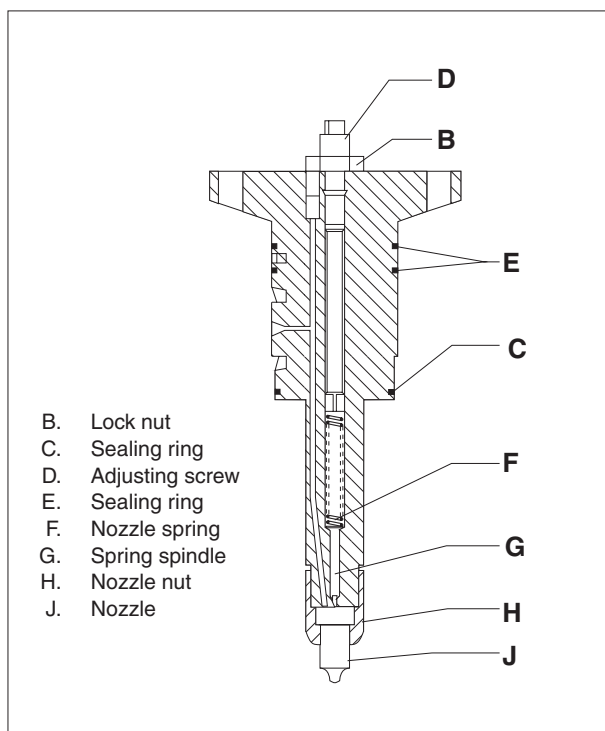

Fig 2 Fuel injection valve.
2. Mount the fuel injection valve into the clamping bracket VTO-W022 (see plate 62014, item 02) on the pressure testing pump, and loosen the lock nut (B) fig 2.